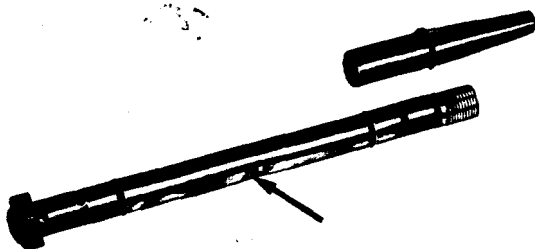

Fig. 135. Swing-arm bearing bolt
First insert short pieces of tubes, then larger ones. Fix the swing arm by means of the 05-MW 26-4 centring bolt (1) and push the new pin in place from the left-hand side (see arrow). Make sure the indicated surfaces (see arrow in Fig. 135) of the bearing pin are located below the retaining screws of the front carrier, otherwise the next dismantling operation will meet with difficulties.